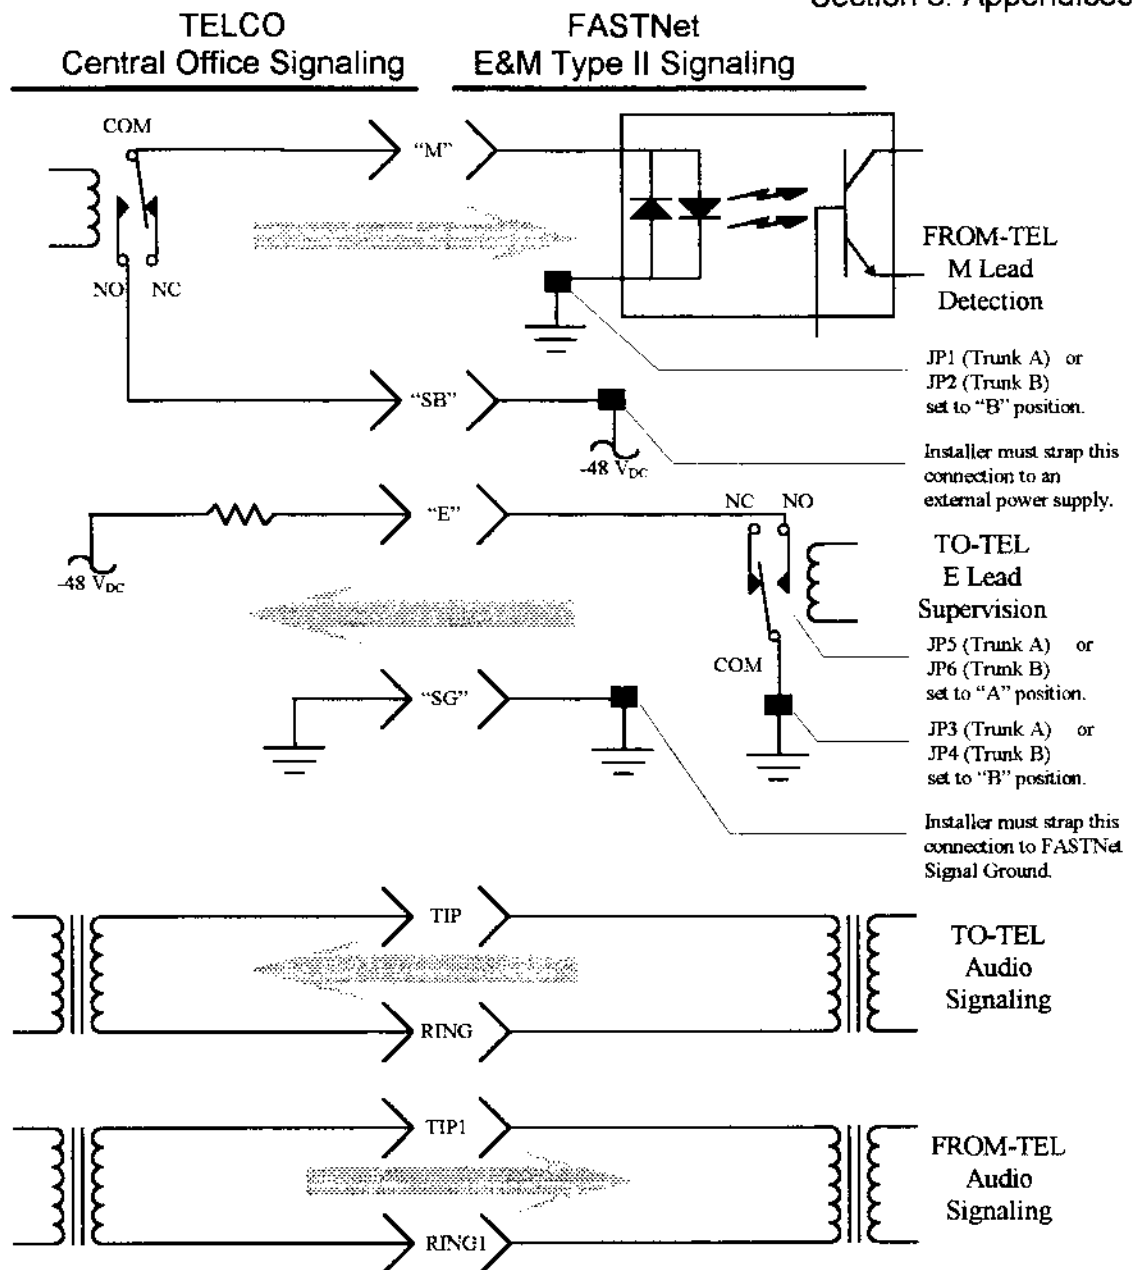

Figure 8-2: Type II E&M Interface to FASTNet
A typical Type II E&M circuit is wired as illustrated in Figure 8-2: Type II E&M Interface to FASTNet. This interface requires an external -48 V_{DC} power supply to enable the “M” lead signaling from telco. Additionally, the “E” lead signaling requires that the “SG” ground reference be connected to the FASTNet signal ground.
- Configure FASTNet per Figure 8-2 of this appendix.